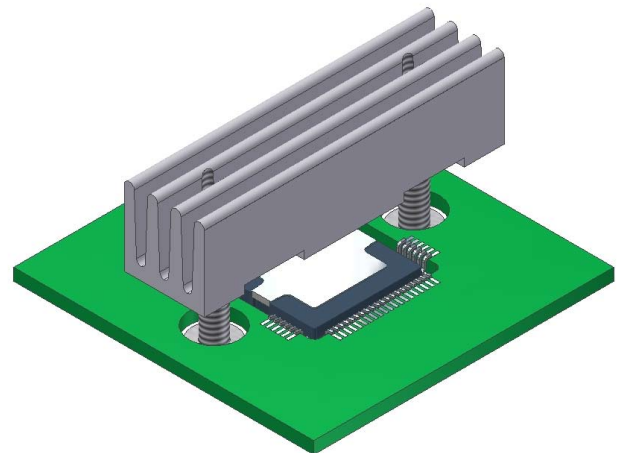

Figure 2 – User Control Features
Figure 2 shows the user control features of the DB63. The PWM duty cycle is controlled with the potentiometer (1 in figure 2). The power LED (2) will illuminate when the 12V supply is connected. The DB63 will power up with the SA57 disabled. The enable button (3) will toggle the SA57 on and off with the LED (4) illuminating to indicate the enable status. Direction of the motor is similarly controlled with the button (5) and is indicated by the LED (6).